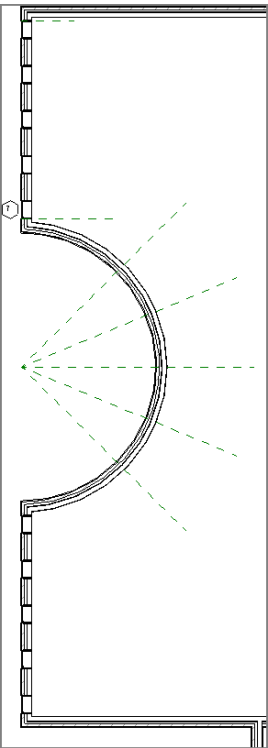

FIGURE 4.27: The finished west wall
5. Zoom out to check the placement of the windows. Don't assume that everything went as planned. Your Level 1 floor plan should resemble Figure 4.27.